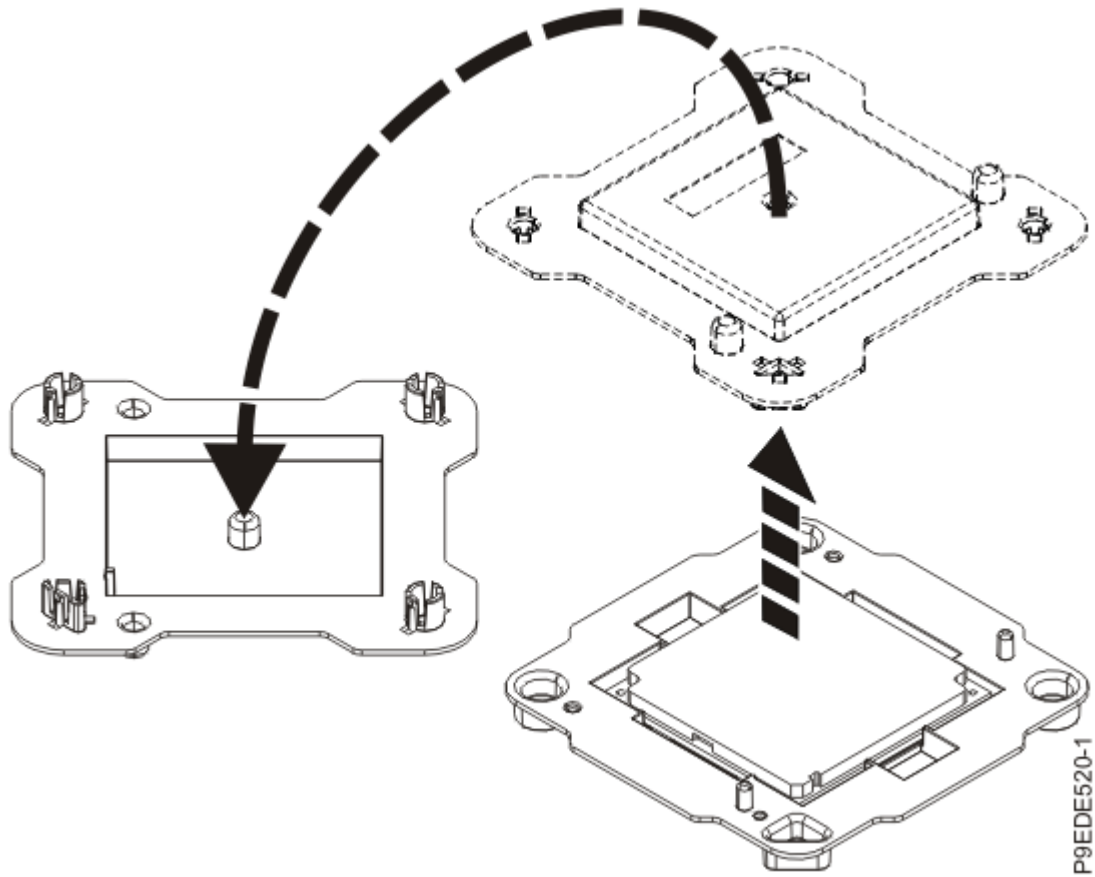

Figure 71. Opening the system processor module packaging
2. Open the packaging of the new system processor module, and place the cover upside down next to the tray, as shown in Figure 71 on page 89. The cover is used for the system processor module that you are replacing.